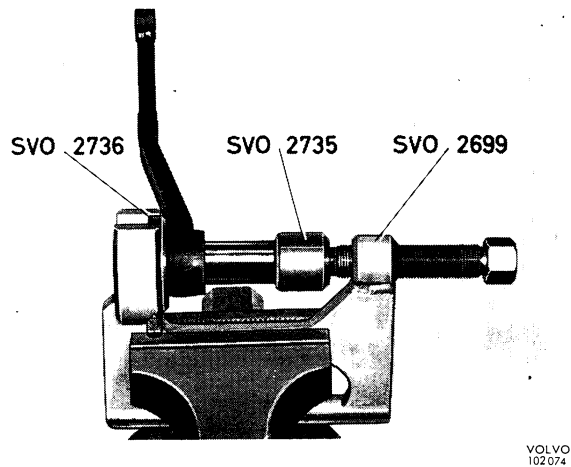

Fig. 6-50. Fitting the rubber bush, relay arm
5. Turn the relay arm and press in the bush with tools SVO 2699 + SVO 2736 and drift SVO 2735 (Fig. 6-50).
6. Place the relay arm in position, fit the washer (7) and the nut.